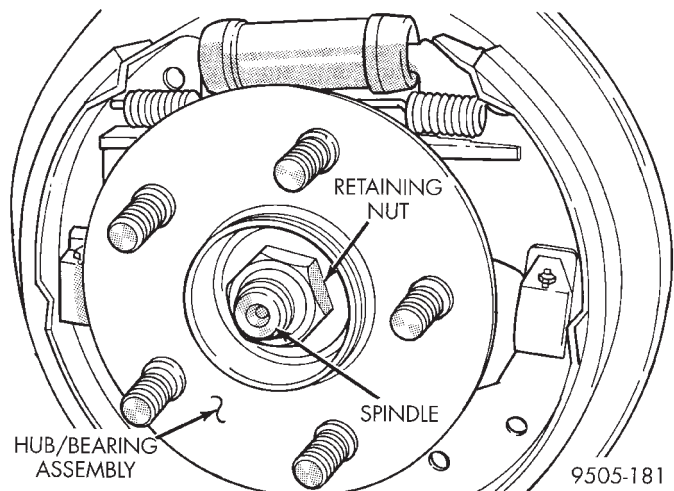

Fig. 10 Hub/Bearing Assembly Retaining Nut
- (6) Remove the rear hub/bearing assembly retaining nut (Fig. 10). Then remove the washer and the hub/bearing assembly from the knuckle.